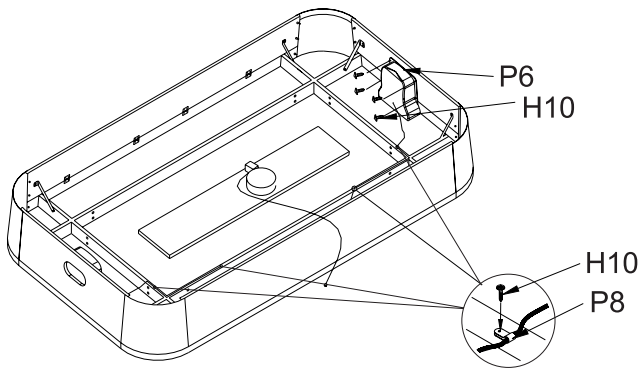

Figure 3
6. Center the puck catchers **P6** over the openings in each end panel and attach using screws **H10** as shown in **Figure 3**.